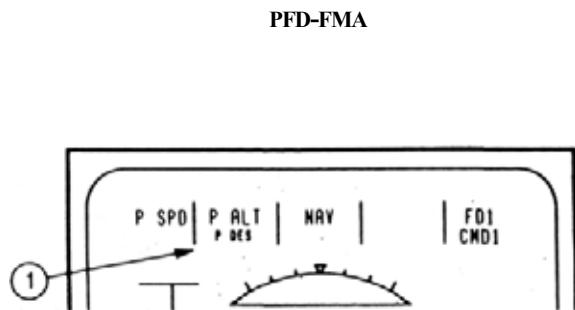

Figure 2-118
On the FMA portion of the PFD, P DES is displayed in CYAN under P ALT, to indicate to the pilot that the AP/FD is armed to capture the vertical profile defined in the FMC (①), Figure 2-118).